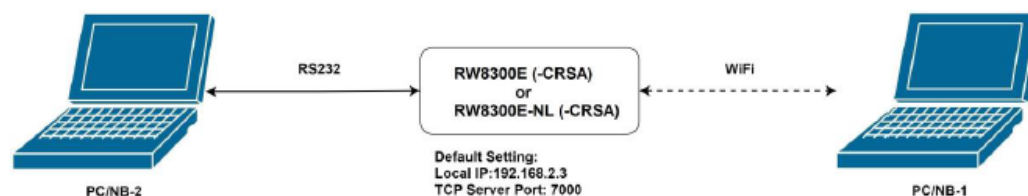

Figure 1 RW8300E (-CRSA)/RW8300E-NL (-CRSA) set up data pass through environment (Server)
Step 1: Follow as below Figure 1 to setup test environment. And power on RW8300E (-CRSA)/RW8300E-NL (-CRSA).